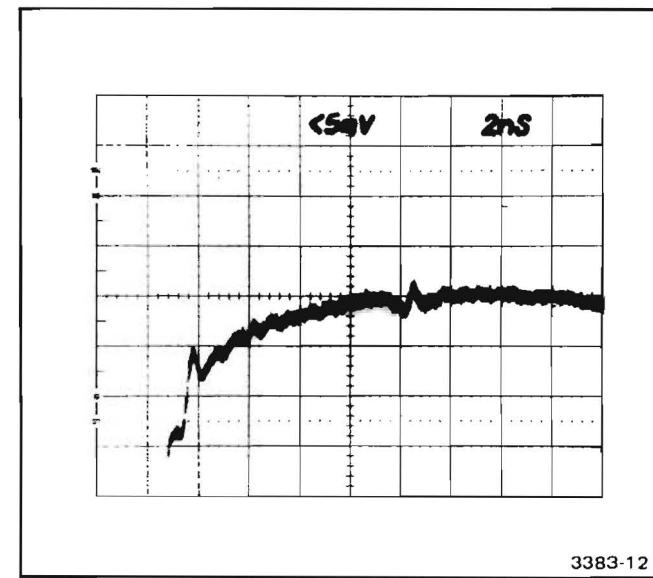

Fig. 4-2. Typical response curve of sampling system.
r. Using the 7S11 Dc Offset, center the step top in the display area. Refer to Fig. 4-2.
t. The sampling system aberrations can now be determined and noted (for use in checking risetime and aberrations). Refer to Fig. 4-2.